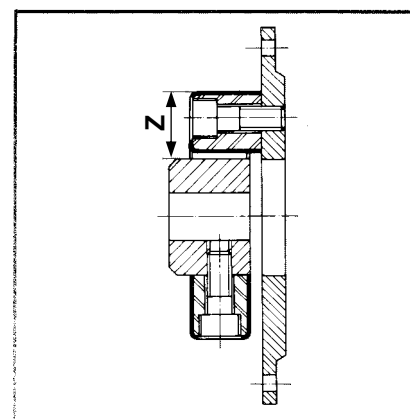
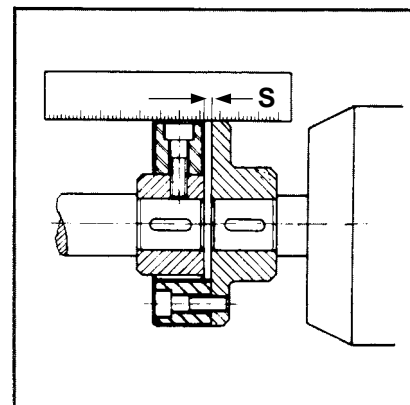

Fig. 8
Fig. 9
After coupling installation, it must be aligned carefully, unless the coupled aggregates align well already having been flanged together. The higher the speed, the more careful the coupling should be aligned to make sure that it has a long service lifetime. On this design, alignment can be checked easily by means of a ruler (Fig. 9). The outer diameter of the flexible ring (20) on the sides where the radial screws are located must align on different planes. The dimension "Z" (Fig. 8) must be measured at all axially screwed-on points of the rubber part, and must be adjusted as precisely as possible.